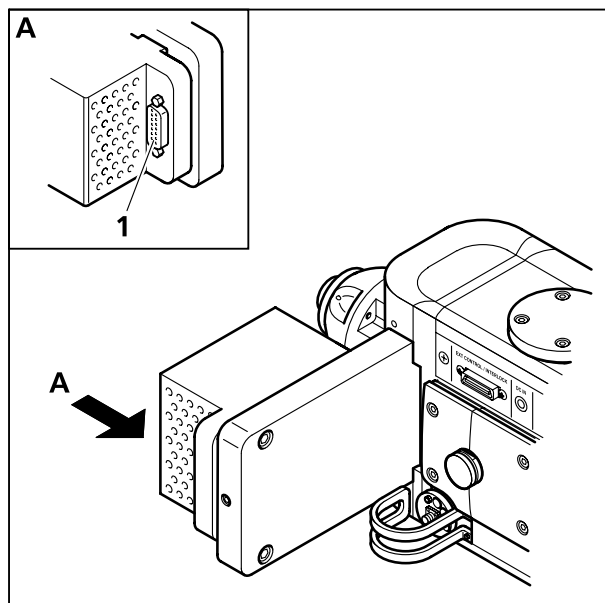

Fig. 3-7 Filter wheel connection
- Connect control cable with filter wheel (Fig. 3-7/1). Secure connector with two screws.